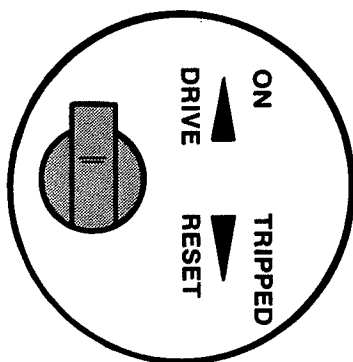

Figure 10. Reset Lever
The RESET LEVER (Fig. 10) is used to reset the drive motor circuit breaker. The circuit breaker will trip if the motor is over-loaded. If the circuit breaker requires re-setting, move the lever to the ON (UP) position. If the cause for the over-load is not corrected, the circuit breaker will continue to trip. If this condition continues, refer to paragraph 4-8, Troubleshooting.